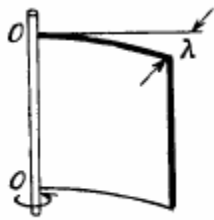

Fig. 1.79.
Q. 304. A steel plate of thickness h has the shape of a square whose side equals l , with $h \ll 1$. The plate is rigidly fixed to a vertical axle OO which is rotated with a constant angular acceleration β (Fig. 1.79). Find the deflection λ , assuming the sagging to be small.